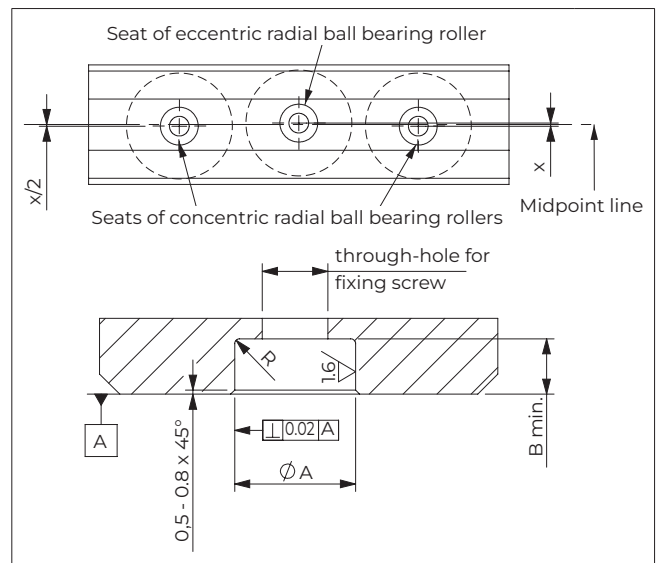

Fig.59
- ▣ To install roller types CPN/CPA, CXPNX/CXPAX, CRPN/CRPA, and RXPNX/CRXPAX, a seat must be made in the structure according to the dimensions shown in Fig.59.